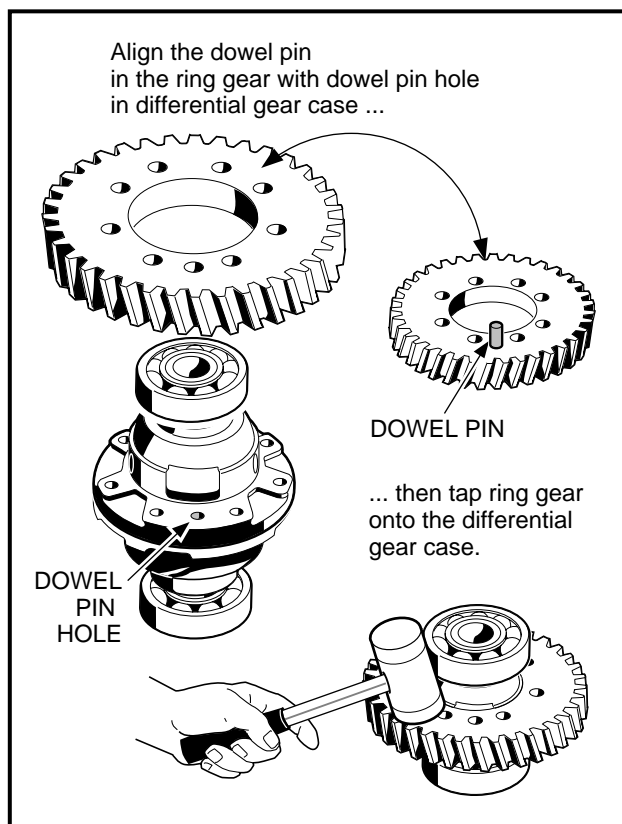

Figure 16-65 Ring Gear
6. Position the output ring gear (81) (**Figure 16-5, Page 16-4**) on the carrier case, visually aligning the dowel hole in the carrier case with the dowel pin in the ring gear. Then, using a plastic or rubber mallet, tap the ring gear into place on the dowel pin as shown (**Figure 16-65, Page 16-27**).